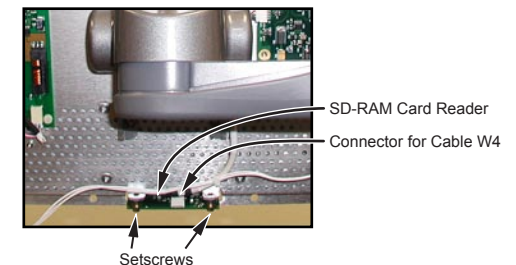

Figure 3-12 Removing SD-RAM Card Reader
- 15.3 Disconnect cable W4 from card reader (see Figure 3-12).